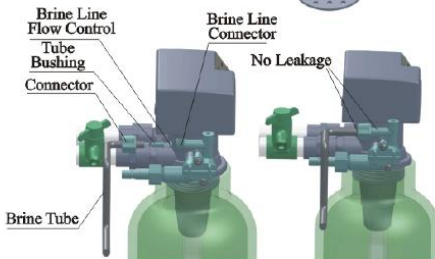

Figure1-4
④ **Connect brine tube**
- a. As Figure1-4 shows, slide 3/8"brine tube hose connector over end of brine tube.